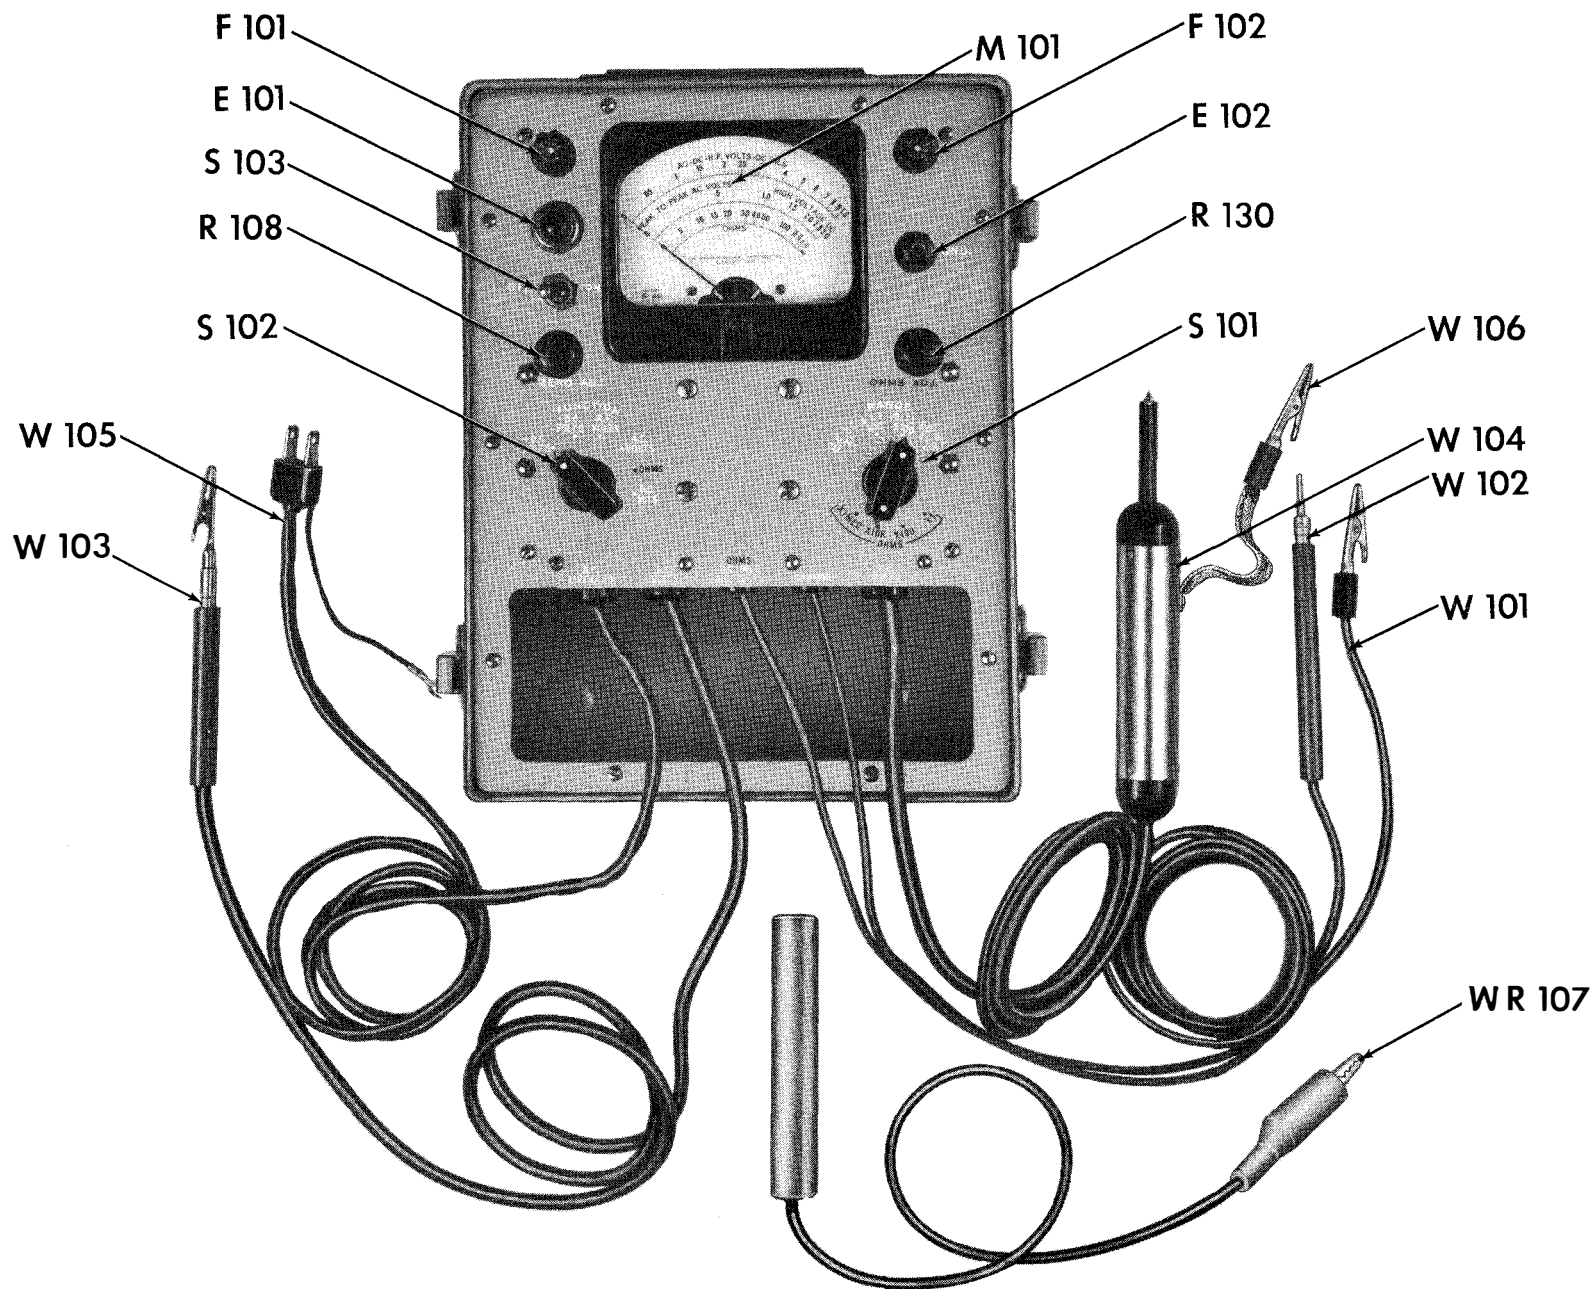

Fig. 4-1. MULTIMETER AN/USM-34 AND ACCESSORIES
(1) Make certain that all test leads, as illustrated in Figure 4-1, are in the compartment of the instrument. Carefully check for mechanical damage to cables.
(2) Loosen the ten screws securing the instrument to the case and inspect chassis to make certain that all tubes are undamaged and in their proper sockets.
(3) Give the entire equipment a careful mechanical inspection to make certain there are no damaged components.
(4) Replace equipment in case and fasten the screws.
2. CONTROLS AND THEIR FUNCTIONS. (See Figure 4-1.)
the scale when no power is applied. This adjustment is made mechanically by means of the Zero Adjust screw shown on the front of the meter in Figure 4-1. Adjust until the needle rests on zero.